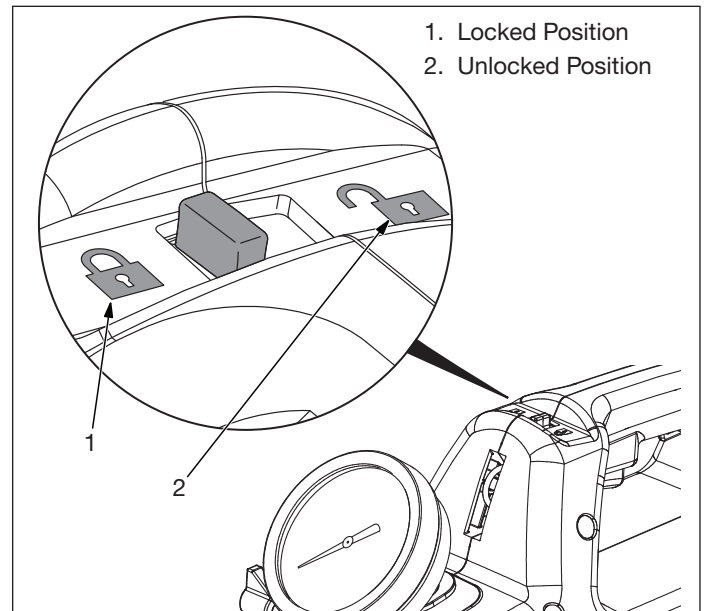

Figure 8, Trigger Lock
1. Ensure that the trigger lock is in the *locked* position. See Figure 8.
1. Disengage the trigger lock by sliding the trigger lock control to the right, so it is closest to the unlocked icon. See Figure 8.
2. Verify that the pressure gauge indicates zero (0) psi/bar. Be certain that all hydraulic pressure is fully relieved before continuing this procedure. If any pressure remains, relieve pressure as described in Section 8.3.
3. Move the trigger lock to the *locked* position. See Figure 8.
8. Move the trigger lock to the *unlocked* position. See Figure 8.